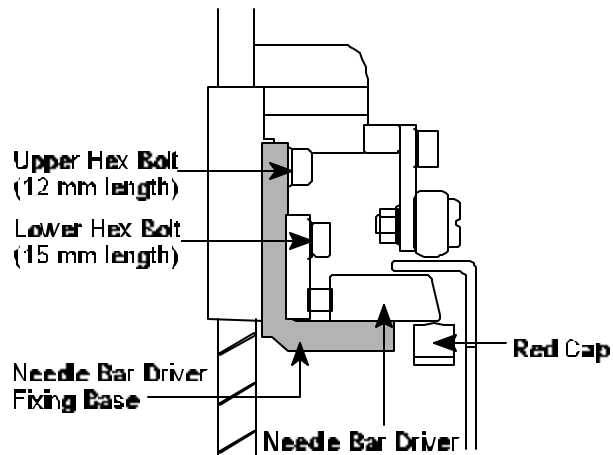

Figure 9
22. **Using** a 3 mm Allen Wrench, **install** Allen Screw (12 mm in length) into upper hole. (Do not tighten completely). See *Figure 9*.
23. **Using** a 3 mm Allen Wrench, **install** Allen Screw (15 mm in length) into lower hole. (Do not tighten completely). See *Figure 9*.